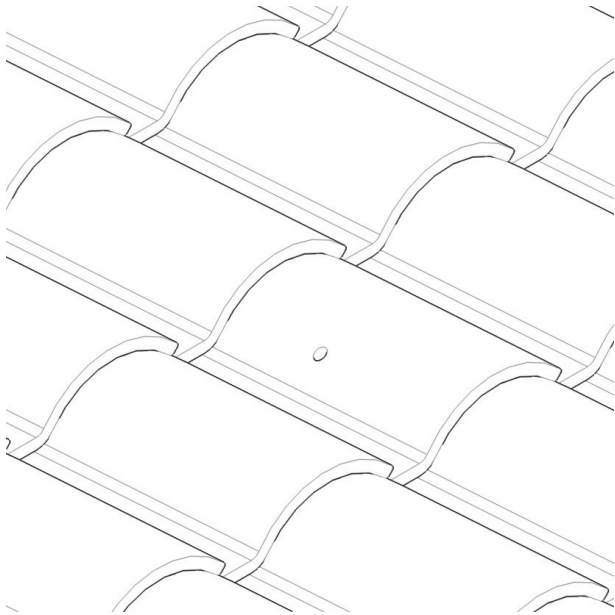

Figure 10.
14. Replace the tile being certain that the drilled hole aligns with the SS coupler. See Figure 10.